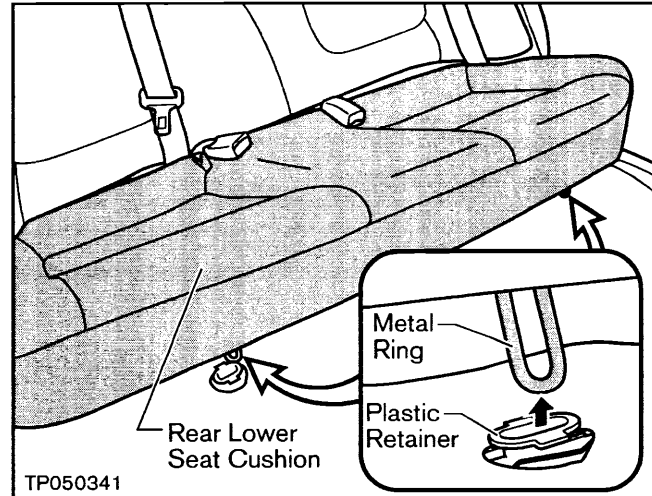

Figure2
- Pull UP at two locations to release the Metal Ring from the Plastic Retainer (see Figure 2).